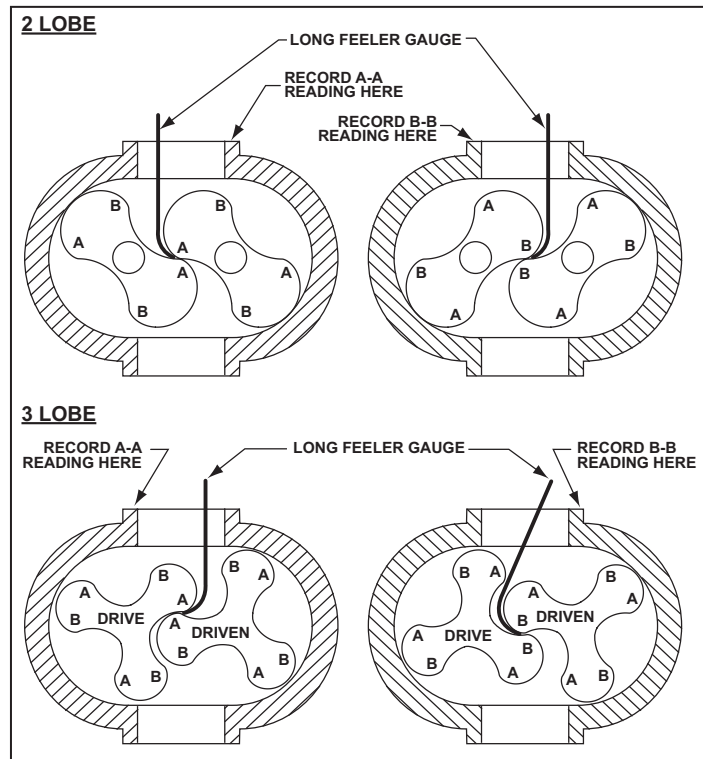

Figure 15 - Checking Rotor Interlobe Clearance
**EXAMPLE:** Referring to Figure 15, check the clearance at AA (left hand reading) and BB (right hand reading). If AA reading is .003" (.08 mm) and BB reading is .009" (.24 mm), by removing .006" (.16 mm) of shim, the readings will change one-half the amount removed or .003" (.08 mm). AA should then read .006" (.16 mm) and BB should read .006" (.16 mm). The final reading should be within .002" (.05 mm) of each other.